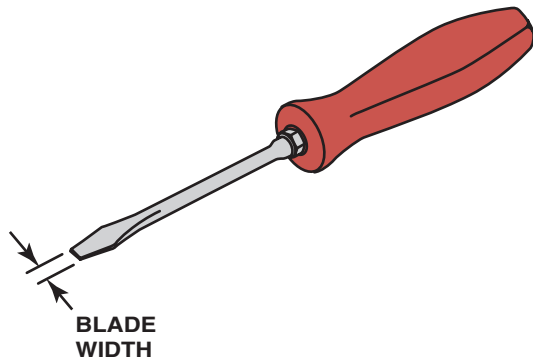

FIGURE 1-29 A flat-tip (straight-blade) screwdriver. The width of the blade should match the width of the slot in the fastener being loosened or tightened.
- **Straight-blade screwdriver.** Many smaller fasteners are removed and installed using a **screwdriver**. Screwdrivers are available in many sizes and tip shapes. The most commonly used screwdriver is called a *straight blade* or *flat tip*. Flat-tip screwdrivers are sized by the width of the blade, and this width should match the width of the slot in the screw. ● **SEE FIGURE 1-29.**